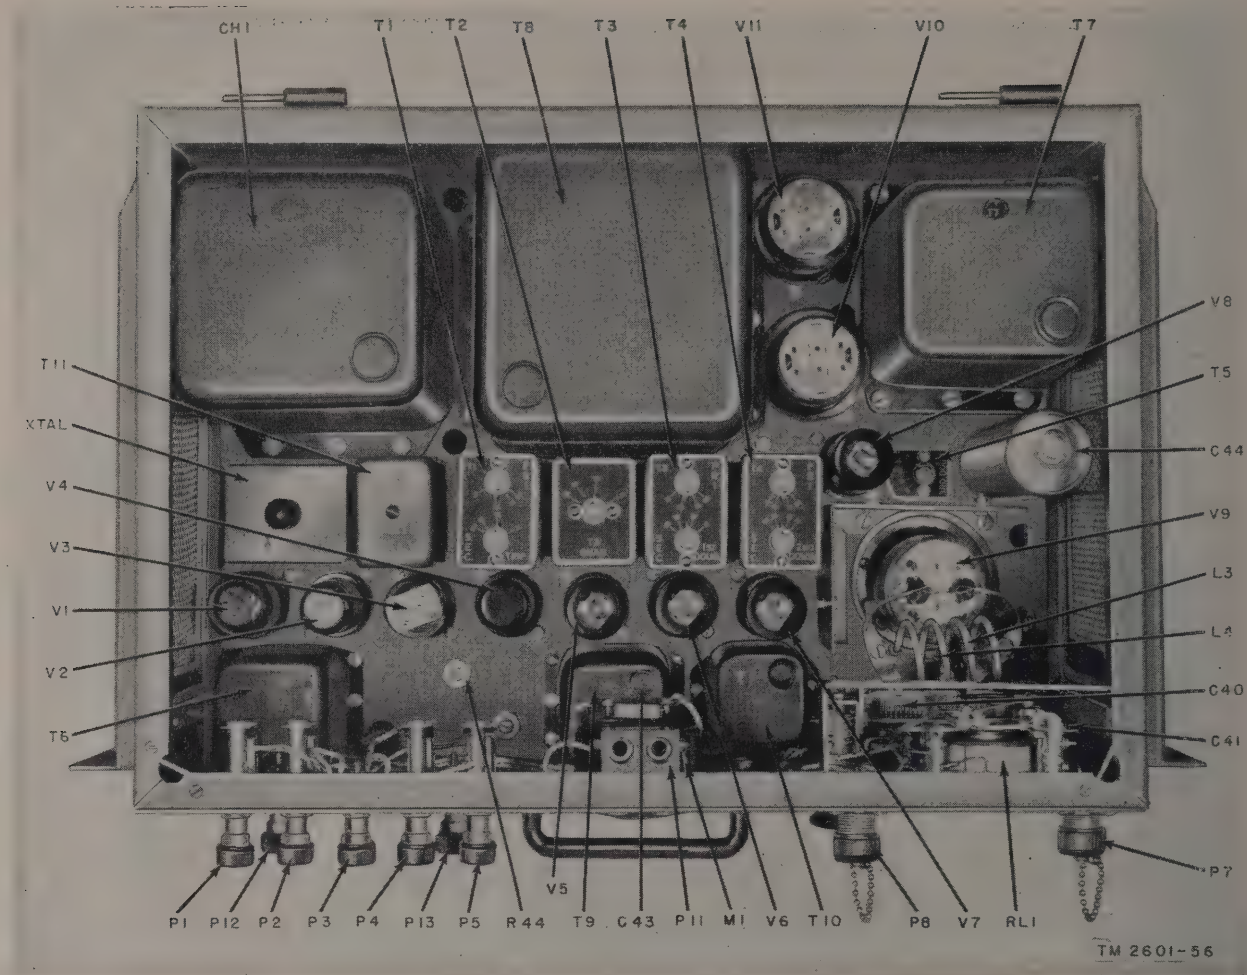

Figure 170. Radio Transmitter T-14H/TRC-1, top view.
b. RADIO TRANSMITTER T-14(*)/TRC-1. If the transmitter is connected to its associated components as in normal operation, operate the equipment as described in the equipment performance checklist in paragraph 172. This checklist is important because it frequently indicates the general location of trouble. Also listen for crackling or buzzing noises which indicate h-v arcing. Check the transmitter for smoke and the odor of burned or overheated parts. Check that tubes and the crystal are in place (fig. 170).
- (1) If the transmitter is being checked apart from its associated components, the following procedures must be followed to make it ready for operation.
- (2) To supply power to the filaments, throw the LINE ON-OFF switch to ON.
- (3) To supply power for plate and screen circuits, insert the three-contact plug of the handset into the MICROPHONE jack and operate the microphone switch.
- (4) Continue with the transmitter portions of the equipment performance checklist (par. 172).